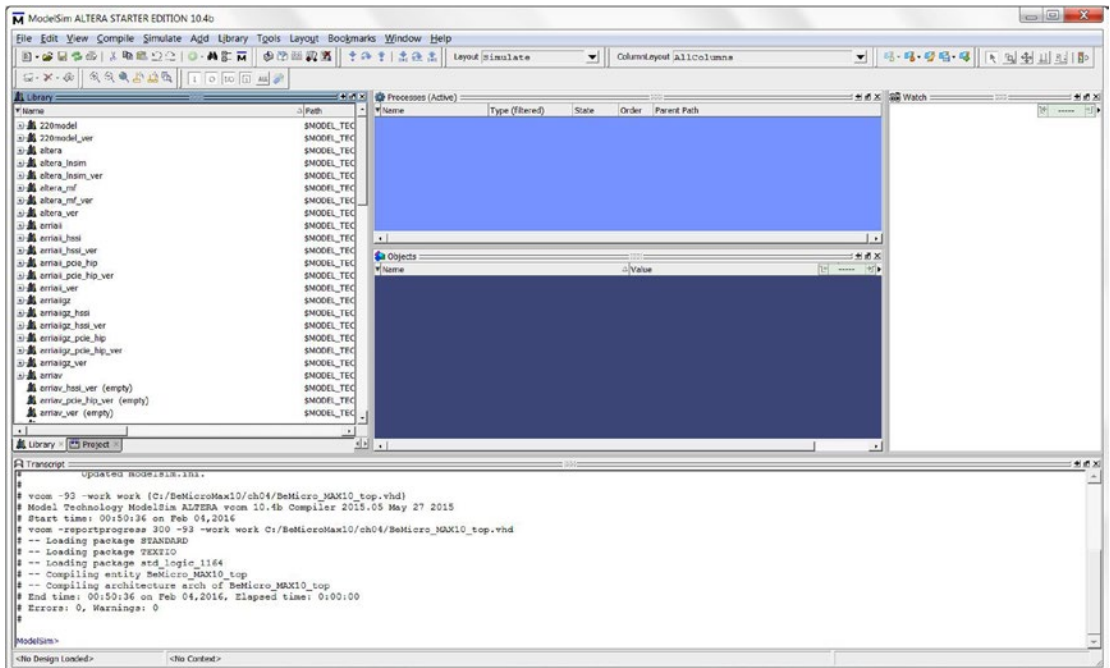
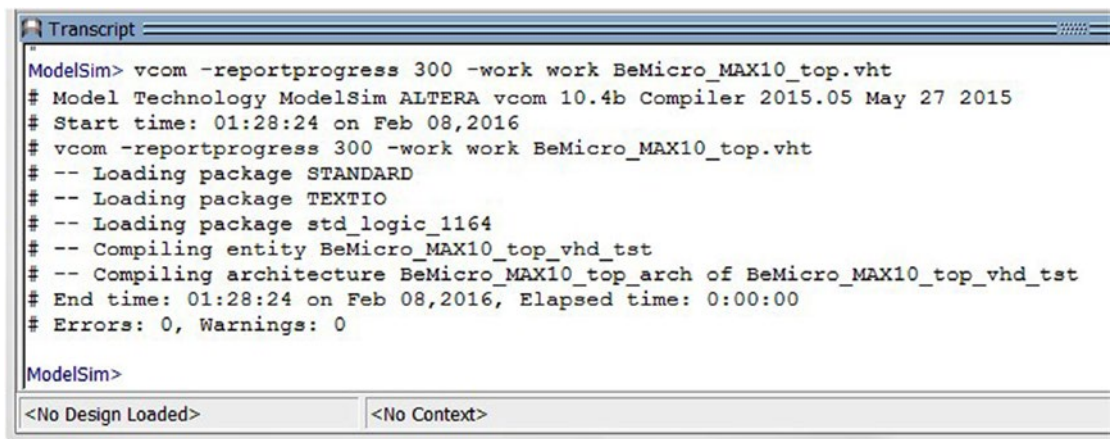

Figure 4-35. ModelSim ALTERA STARTER EDITION
Figure 4-36. ModelSim ALTERA STARTER EDITION
4. ModelSim ALTERA STARTER EDITION should open (Figure 4-35). In the transcript, you should find the last line is **ModelSim►**. Enter the following Tcl command and hit Enter. Once completed you should see Figure 4-36 in the Transcript log.